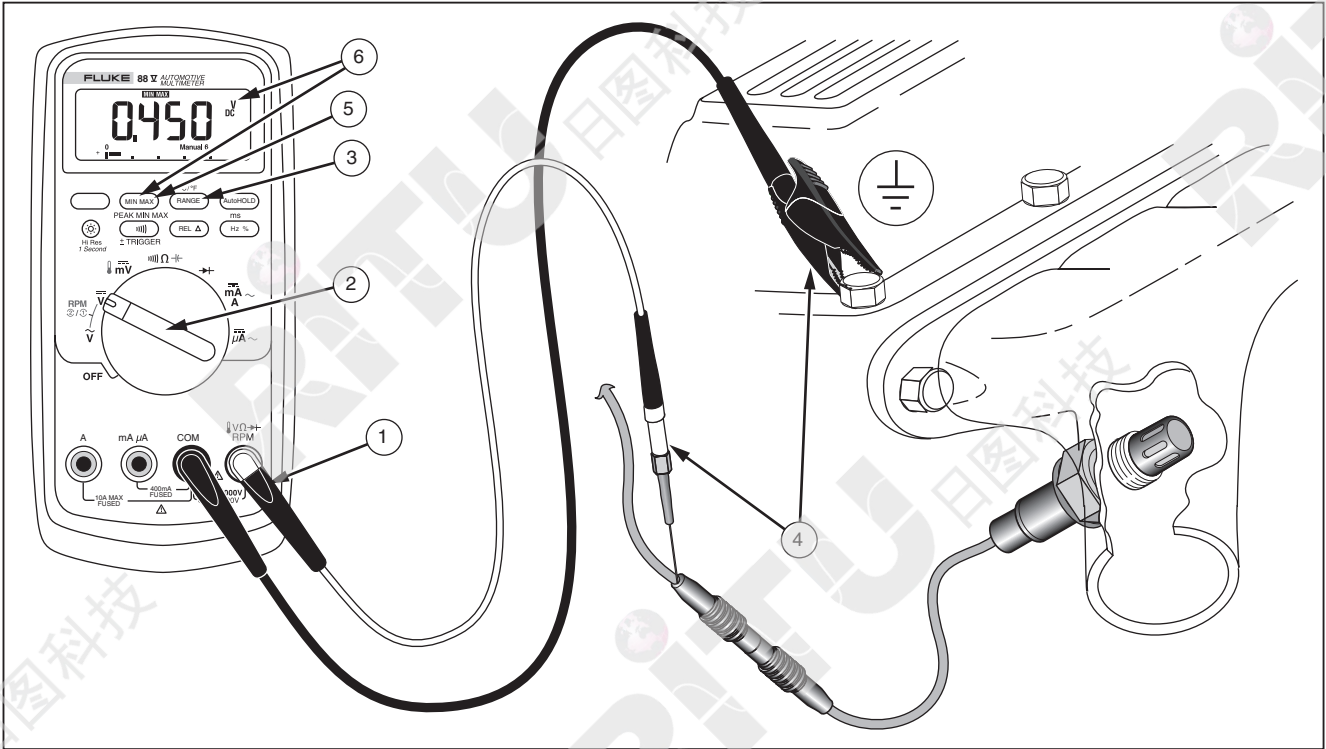

Figure 14. Measuring Voltages on a Typical Oxygen Sensor
1. Shut the engine off and insert test lead in the input terminals shown in Figure 14.